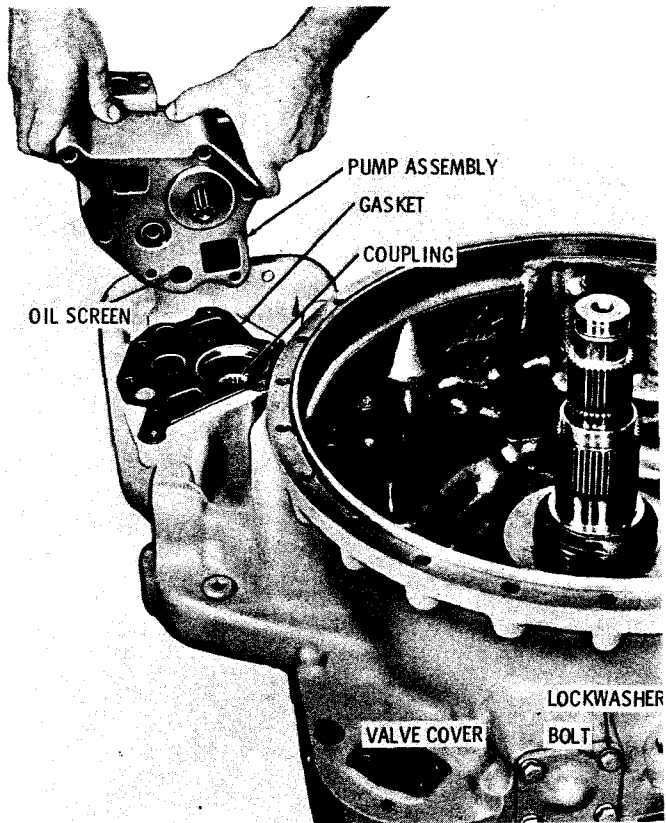
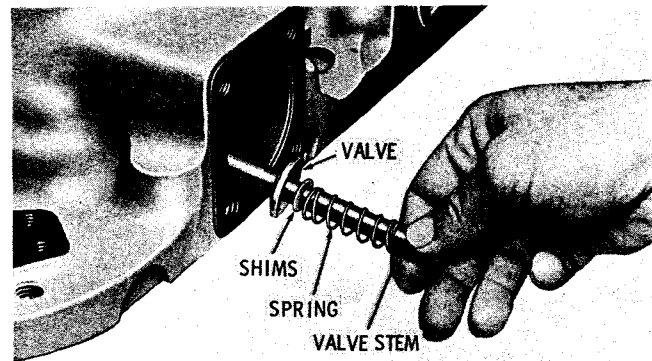

Fig. 5-32. Removing oil pump assembly
Fig. 5-33. Removing lubrication regulator valve components
(1) Remove six outer bolts and lockwashers from the oil pump assembly. Remove the pump assembly and gasket (fig. 5-32). Remove the
pump drive coupling. Remove the oil screen from the pump on transmission assemblies after S/N 34818 (fig. 5-32). Refer to paragraph 6-17 for rebuild of the oil pump assembly.
(2) Remove four bolts and lockwashers and the lubrication valve cover (fig. 5-32). Remove the valve stem, spring, shims and valve (CLT models only) (fig. 5-33).